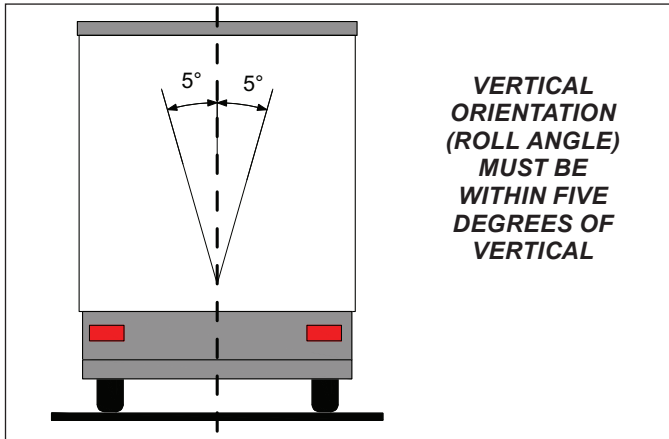

FIGURE 15 - INSTALLATION ON TRAILER (VERTICAL)
1. The TABS-6 Advanced module shall be installed with the following considerations (see Figures 15 through 17):